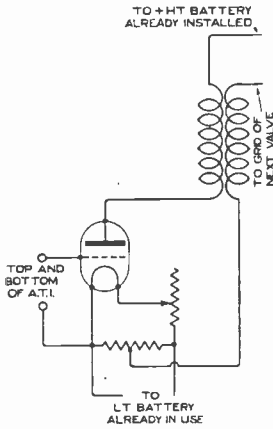

Fig. 1.
The slide rule is shown in Fig. 1, where it will be seen that there are four index arrows, two of which are red and two black, on the rule itself, the black indexes coinciding with the capacity
**NOTE.**—This section of the magazine is placed at the disposal of all readers who wish to receive advice and information on matters pertaining to both the technical and non-technical sides of wireless work. Readers should comply with the following rules.—(1) Each question should be numbered and written on a separate sheet on one side of the paper only. (2) Queries should be clear and concise. (3) Before sending in their questions readers are advised to search recent numbers to see whether the same queries have not been dealt with before. (4) **The Editor cannot undertake to reply to queries by post.** (5) All queries must be accompanied by the full name and address of the sender, which is for reference, not for publication. Queries will be answered under the initials and town of the correspondent, or, if so desired, under a "nom de plume." (6) **Readers desirous of knowing the conditions of service, etc., for wireless operators will save time by writing direct to the various firms employing operators.** (7) Four questions is the maximum which will be accepted at a time.
**G.R.H. (Elland)** asks (1) If having intervalve transformers near a valve will affect its working. (2) How to add a single valve H.F. amplifying unit to his set. (3) Suggestions for improving a set sketched. (4) If he should be able to get PCGG.
(1) An effect of this nature can be obtained but you are unlikely to get it unless your transformers are exceptionally leaky, and exceptionally near the valves.
(2) See diagram Fig. 1.